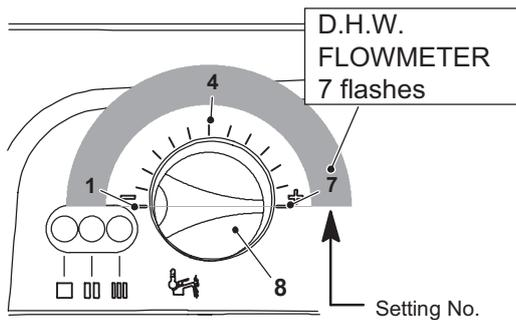

Figure 9.20
At this step it is possible to visualize the current setting by keeping the reset button 9 pressed for more than 5 seconds. The lamps 11 will flash a number of times corresponding to the setting (Figure 9.20).
- Change the setting by turning the knob 8 on the position corresponding to the desired setting (Figure 9.20). By turning the knob 8, the lock-out signal lamp 11 blinks quickly (2 per seconds) indicating that the setting has changed and must be memorised.
At this step it is possible to visualize the current setting by keeping the reset button 9 pressed for more than 5 seconds. The lamps 11 will flash a number of times corresponding to the setting of Figure 9.20 that must be seven times.